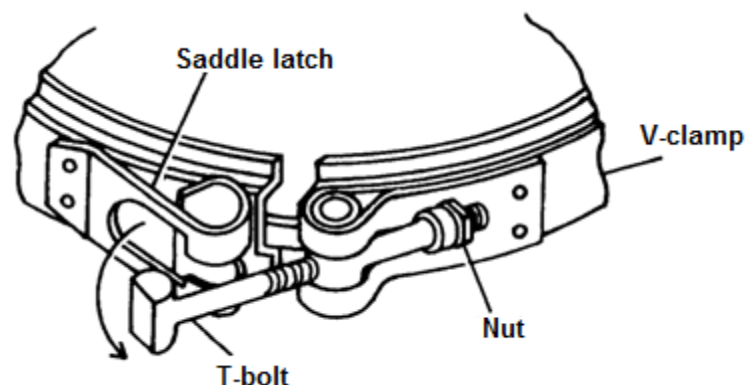

Fig. 1: Description of parts on the V-clamp.
2. Disassemble the product. (Fig. 1.)